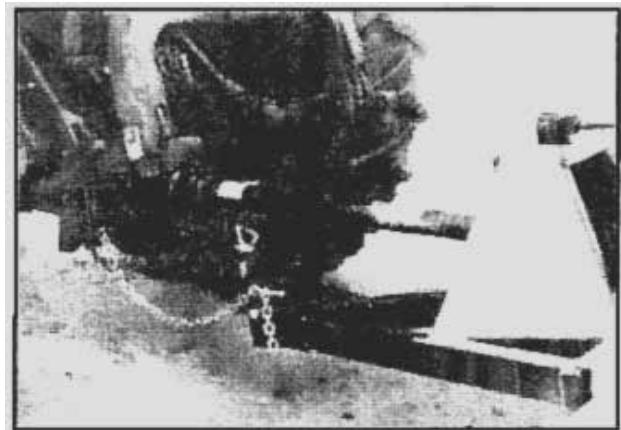

Figure 9. Hitch PTO Components
12. Attach the driveline to the tractor by retracting the locking collar. Slide the yoke over the shaft and push on the yoke until the lock collar clicks into position. Make sure the yoke is locked into position. See Figure 9.